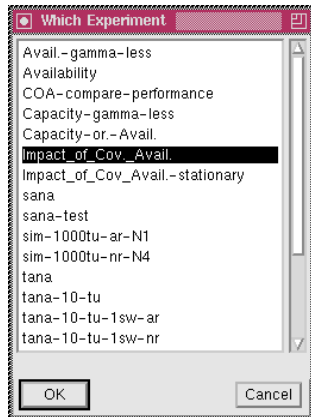
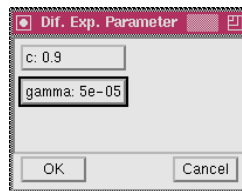

Figure 19: “Which Experiment” dialog.
Figure 20: “Dif.Exp.Parameter” dialog.
- Experiments** By clicking at this button the “Which Experiment” dialog (see Fig. 19) with a list of all possible experiments for this model appears. Choose one of the experiments and then press OK. If the selected experiment contains more than one varying parameter the “Dif.Exp.Parameter” dialog (see Fig. 20) pops up. By clicking at one of the buttons marked with the parameter name select a fixed value for each parameter. The result lines are created as the difference between any two lines with the same name. The subtrahend lines belong to the current experiment, the minuend lines belong to the experiment selected in the “Which Experiment” dialog.